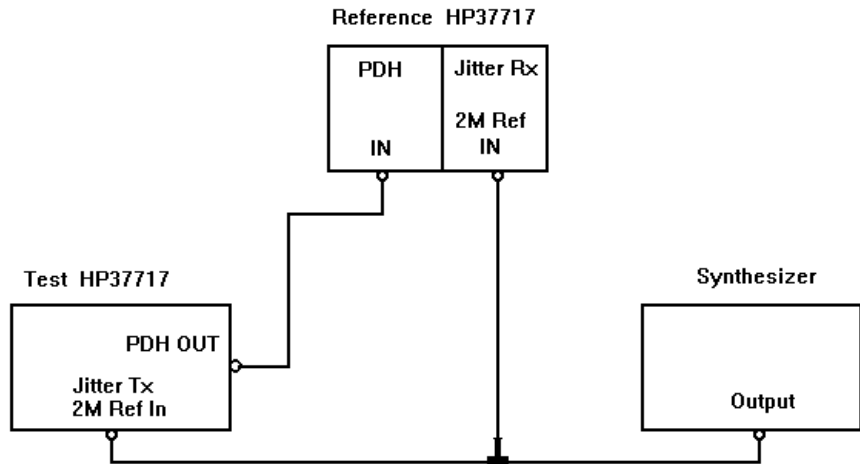

Figure 3-52
3. Connect up the equipment as shown in Figure 3-52.